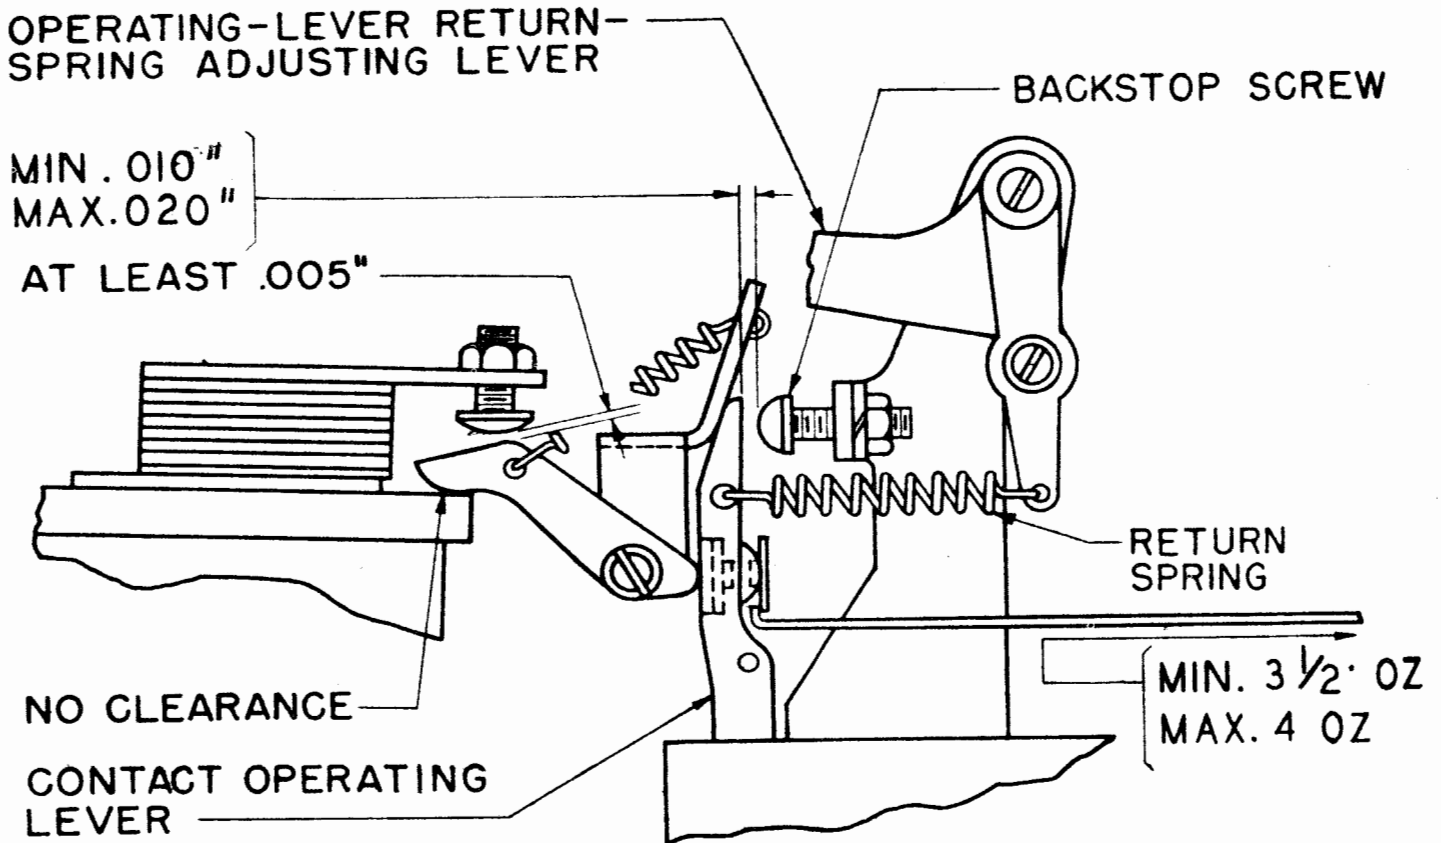

Figure 37
To Adjust: Position adjusting screw on punch-magnet armature and check that, with the armature lever resting firmly against its right-hand stop by electrical operation of the magnet and the antichatter contact lever held manually against the magnet spool head, there is minimum 0.005 inch clearance between the antichatter contact lever and its operating screw. See Figure 37.
- 3.29 Punch-magnet Control-contact Operating-lever Return-spring Adjusting Lever (on units equipped with key-pressure adjusting mechanism) should be free from bind over the entire range of the adjusting screw, which bears against the other end of the operating-lever return-spring adjusting lever shown in Figure 37. The operating lever backstop screw should line up approximately centrally with the contact operating lever. Gauge by eye.
- 3.30 Punch-magnet-control Right Spring should require a pull of minimum 3-1/2 ounces, maximum 4 ounces to separate its contact from that of the left spring when the punch magnet is energized. See Figure 37.
3.42 Punch-magnet Control-contact Operating Lever should clear its backstop by minimum 0.010 inch, maximum 0.020 inch when the pressure on any keylever is released until the lever just separates the spring contacts. See Figure 37.